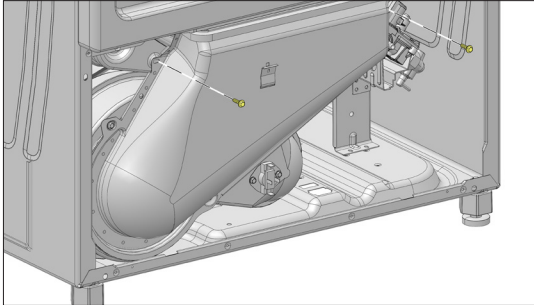

Figure 1
2. Remove two (2) 1/4" hex head screws as shown in figure 1. and then remove two (2) screws going into the blower housing, as shown in figure 2.